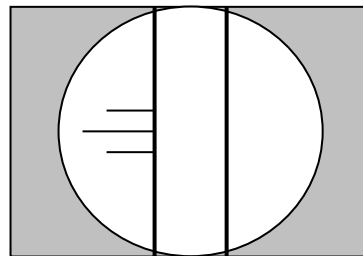

Figure 10 The two thin lines in the eyepiece are very clear
5.2 Rotate the eyecup until the two thin lines in the eyepiece are very clear. See Figure 10.